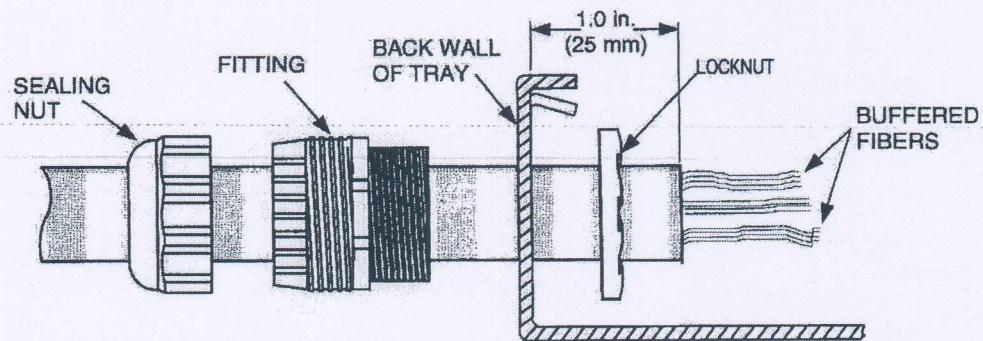

Figure 3. Securing the Fiber Optic Cable(s)
2. If needed, adjust the cable diameter by wrapping the cable strain area with suitable tape to best fit within the fitting. Install the fitting onto the cable as shown in Figure 3.